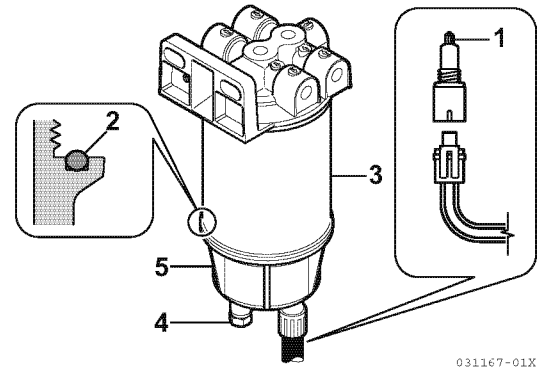

Figure 4-6
3. Loosen the drain plug (4, Figure 4-6) on the bottom of the fuel filter/water separator and drain off any water or sediment.
4. Disconnect water sensor (1, Figure 4-6).
5. Turn the filter bowl (5, Figure 4-6) counterclockwise to remove.
7. Clean the filter bowl. Inspect the water sensor (1, Figure 4-6) for damage. Inspect the bowl seal (2, Figure 4-6).
8. Lubricate the seal at the top of the new filter element (3, Figure 4-6) and install.
9. Lubricate the filter bowl seal (2, Figure 4-6) and install the filter bowl (5, Figure 4-6). Turn clockwise by hand to tighten.
10. Ensure drain plug (4, Figure 4-6) is securely tightened.
11. Connect water sensor (1, Figure 4-6).